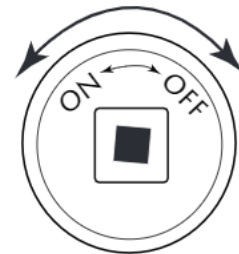

Fig. 11. Key Valve Face
1. Insert key into shut-off valve and secure into square end (see Figs 11 & 12).
Low flame	<ol style="list-style-type: none">1. Ensure the base media is at least 1 to 2-inches in diameter and top media is no more than 1-inch over top of burner.2. Ensure all shut-off valves and key valve is fully open. See page 11; Figs 11 & 12.3. Check for spider webs inside the main burner orifice vent holes for LP fire pits.4. Check gas pressure.